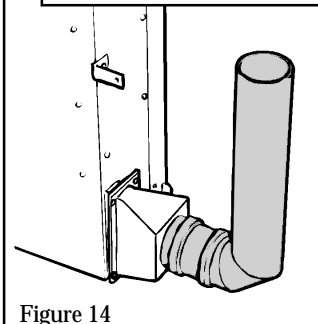

Figure 14
6.10 For vertical duct installations: Fit an elbow bend duct to the duct connector pushing firmly to ensure a good seal. (see figure 14).